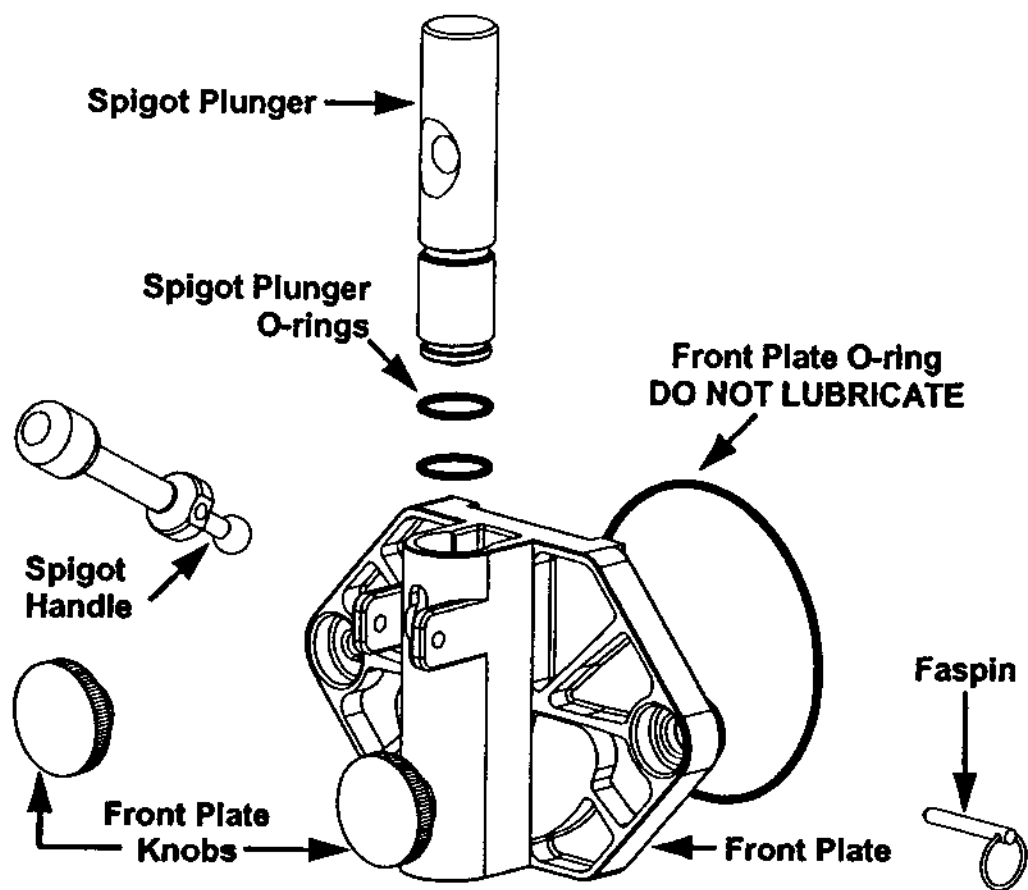

Fig. 19
b. Slide the lubricated spigot plunger into the front plate (Fig. 19) Align the spigot handle slot to the front.